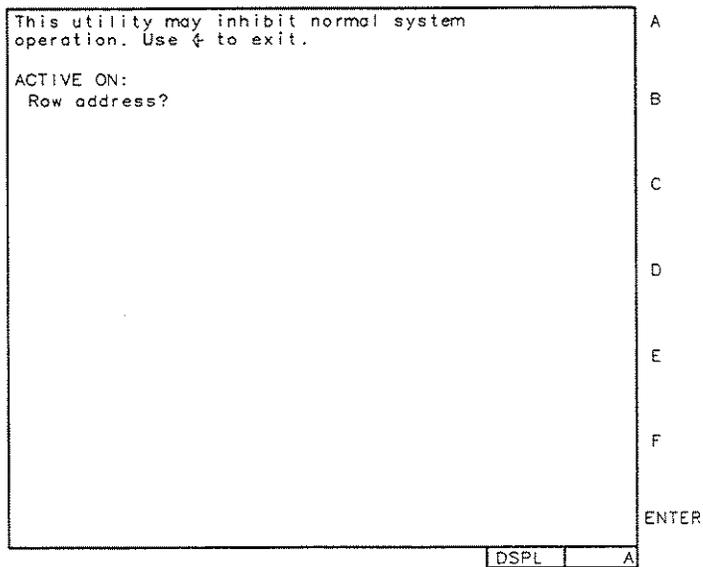

Figure 5-5. Alphabetical Softkeys
4. Enter the column address of the module as a hexadecimal number. Refer to Table 5-1 for decimal-to-hexadecimal conversion information. Use the alphabetical softkeys (Figure 5-5) and the keypad to enter the hexadecimal numbers.